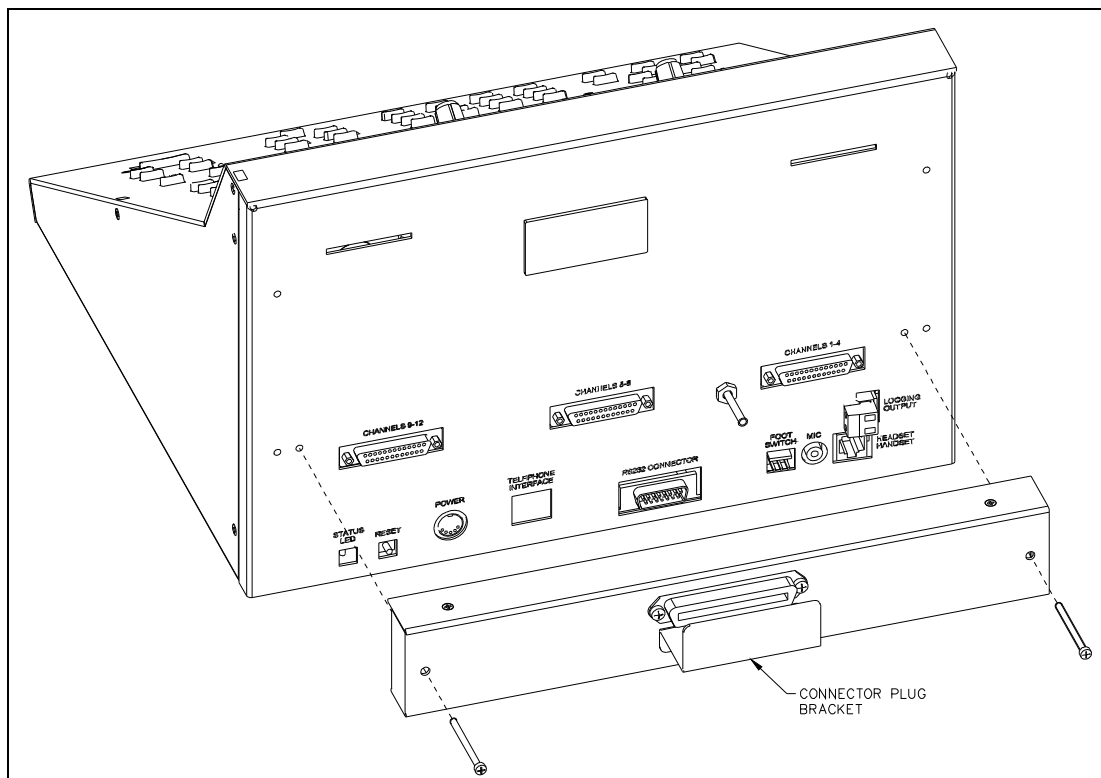

Figure 18.
2. Mount the Telco Interface to the rear of the console. Refer to Figure 18. Position the Telco Interface so that the three DB25 connector plugs line up with the DB25 connector receptacles on the rear panel.
3. Secure the Telco Interface with the supplied #6-32 screws shown in Figure 18, tightening them until the Telco unit is snug against the rear panel.